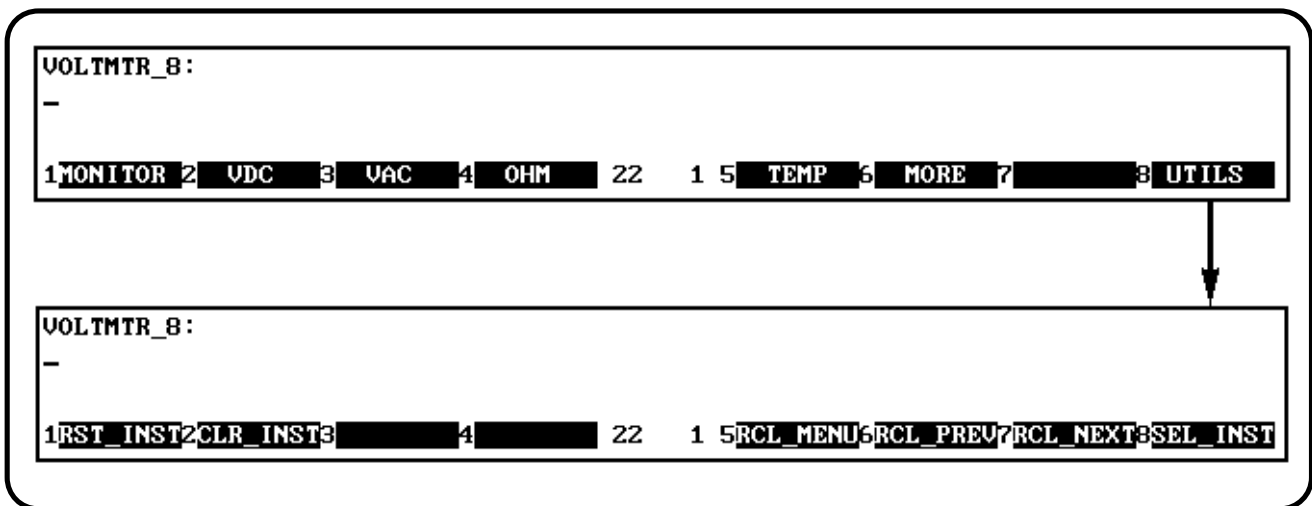

Figure 3-3. Accessing the Utility
- In addition to the instrument menu keys, **CLR_INST**, **RST_INST** and **SEL_INST** are helpful when operating instruments. These and other utility keys are accessed by pressing the **UTILS** key (see Figure 3-3). Refer to “General Key Descriptions” on page 77 for information on the **RCL_....** keys in this menu.